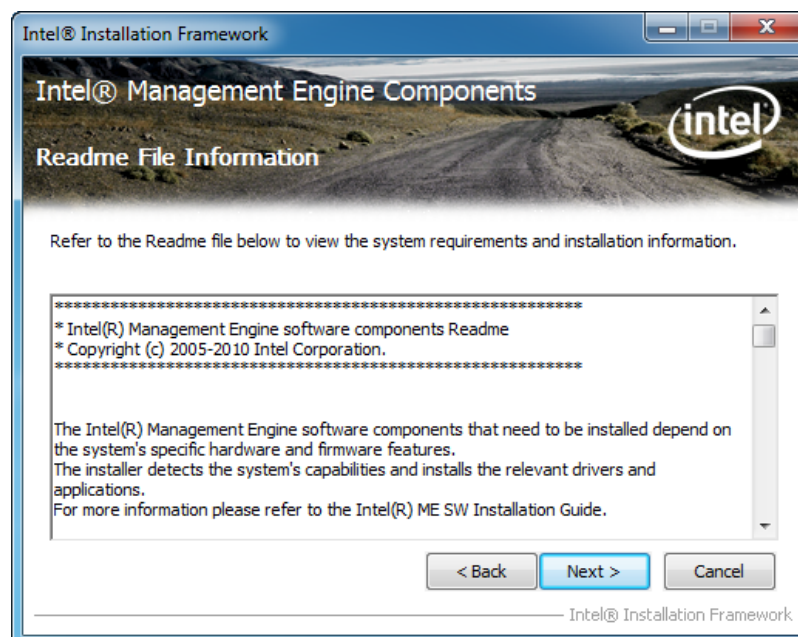

Figure 6-30: Intel® ME Driver Read Me File
Step 9: The **Read Me** file in Figure 6-30 appears.